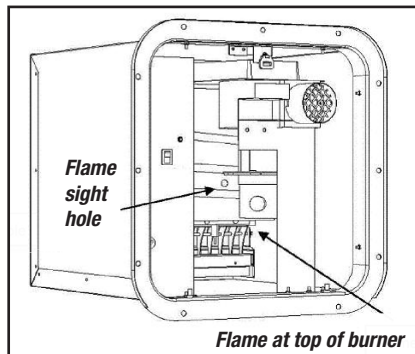

Figure 8
8. Turn on the power to the water heater and open a hot water faucet to inspect the flame of the burner. The flame should be of the normal bluish appearance that indicates proper combustion. This can be accomplished by observing the flames through the sight hole and looking at the burner under the edge of the heat exchanger (See Figure 8).